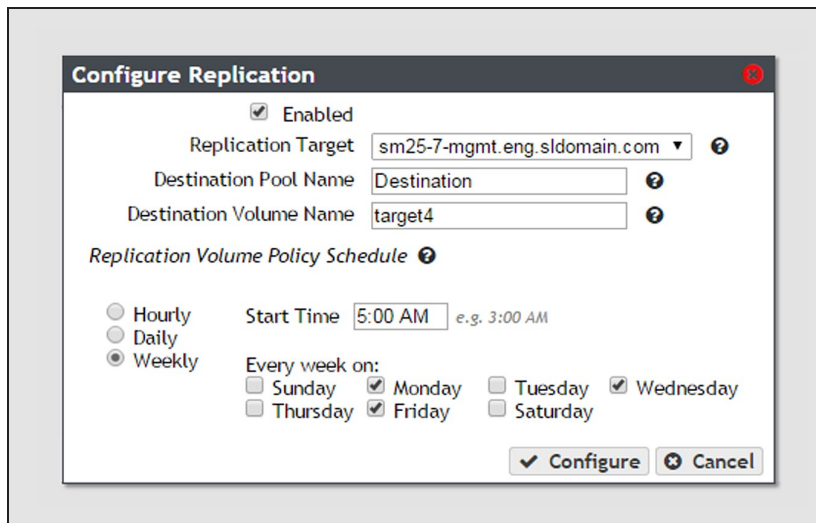

Figure 64 The Configure Replication dialog box showing the weekly interval options.
3. Select one or more days for **Every week on:**. This determines the day(s) of each week the NAS volume replicates data. For example, based on the selections in Figure 64, the NAS volume replicates data every Monday, Wednesday, and Friday at 5:00 AM.